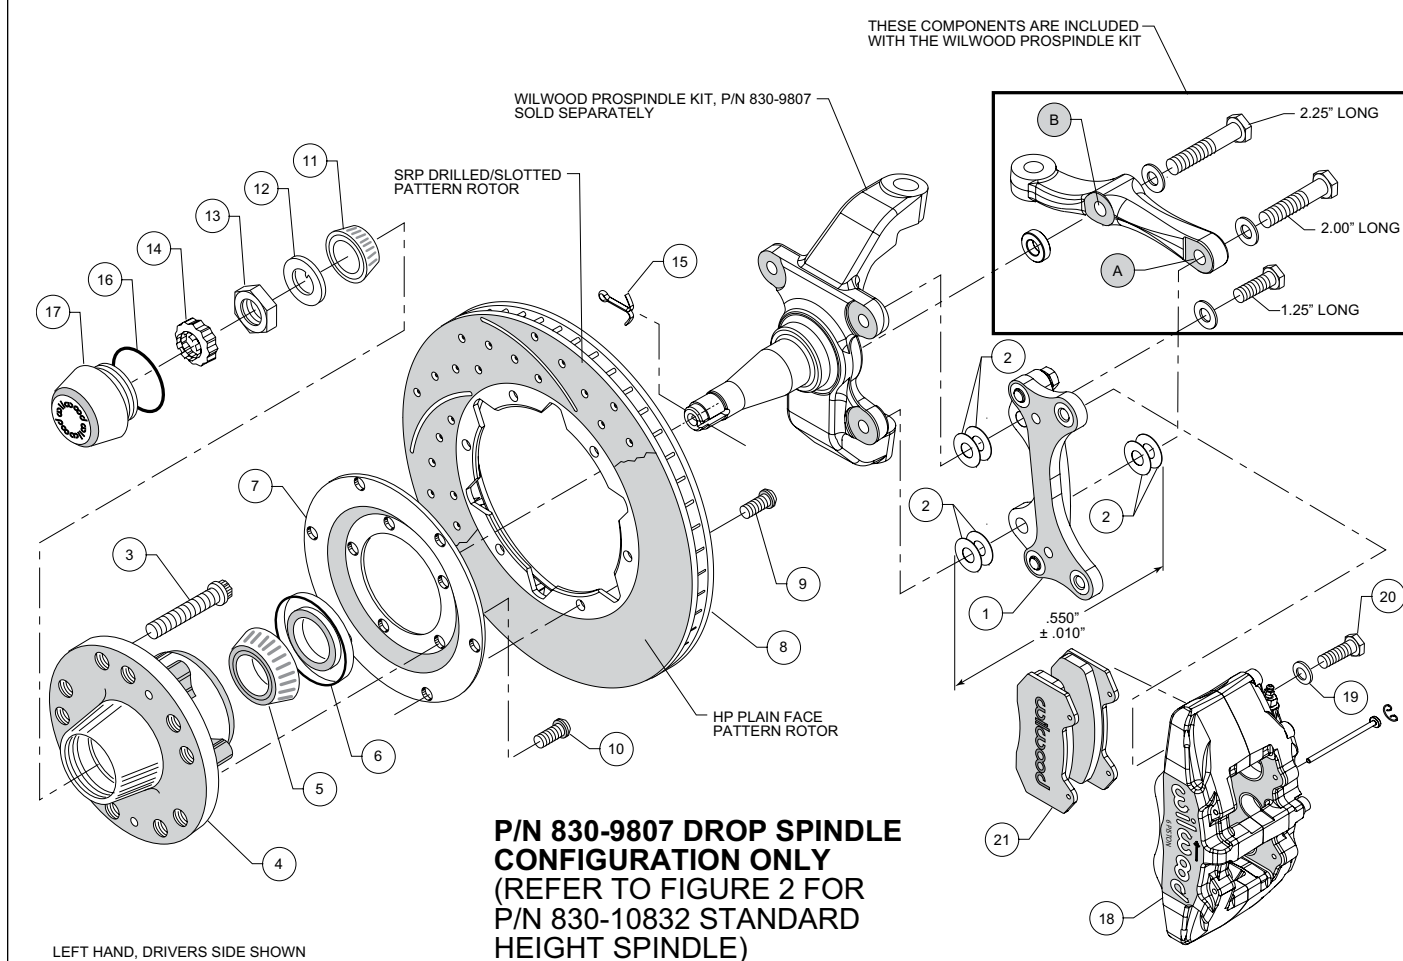
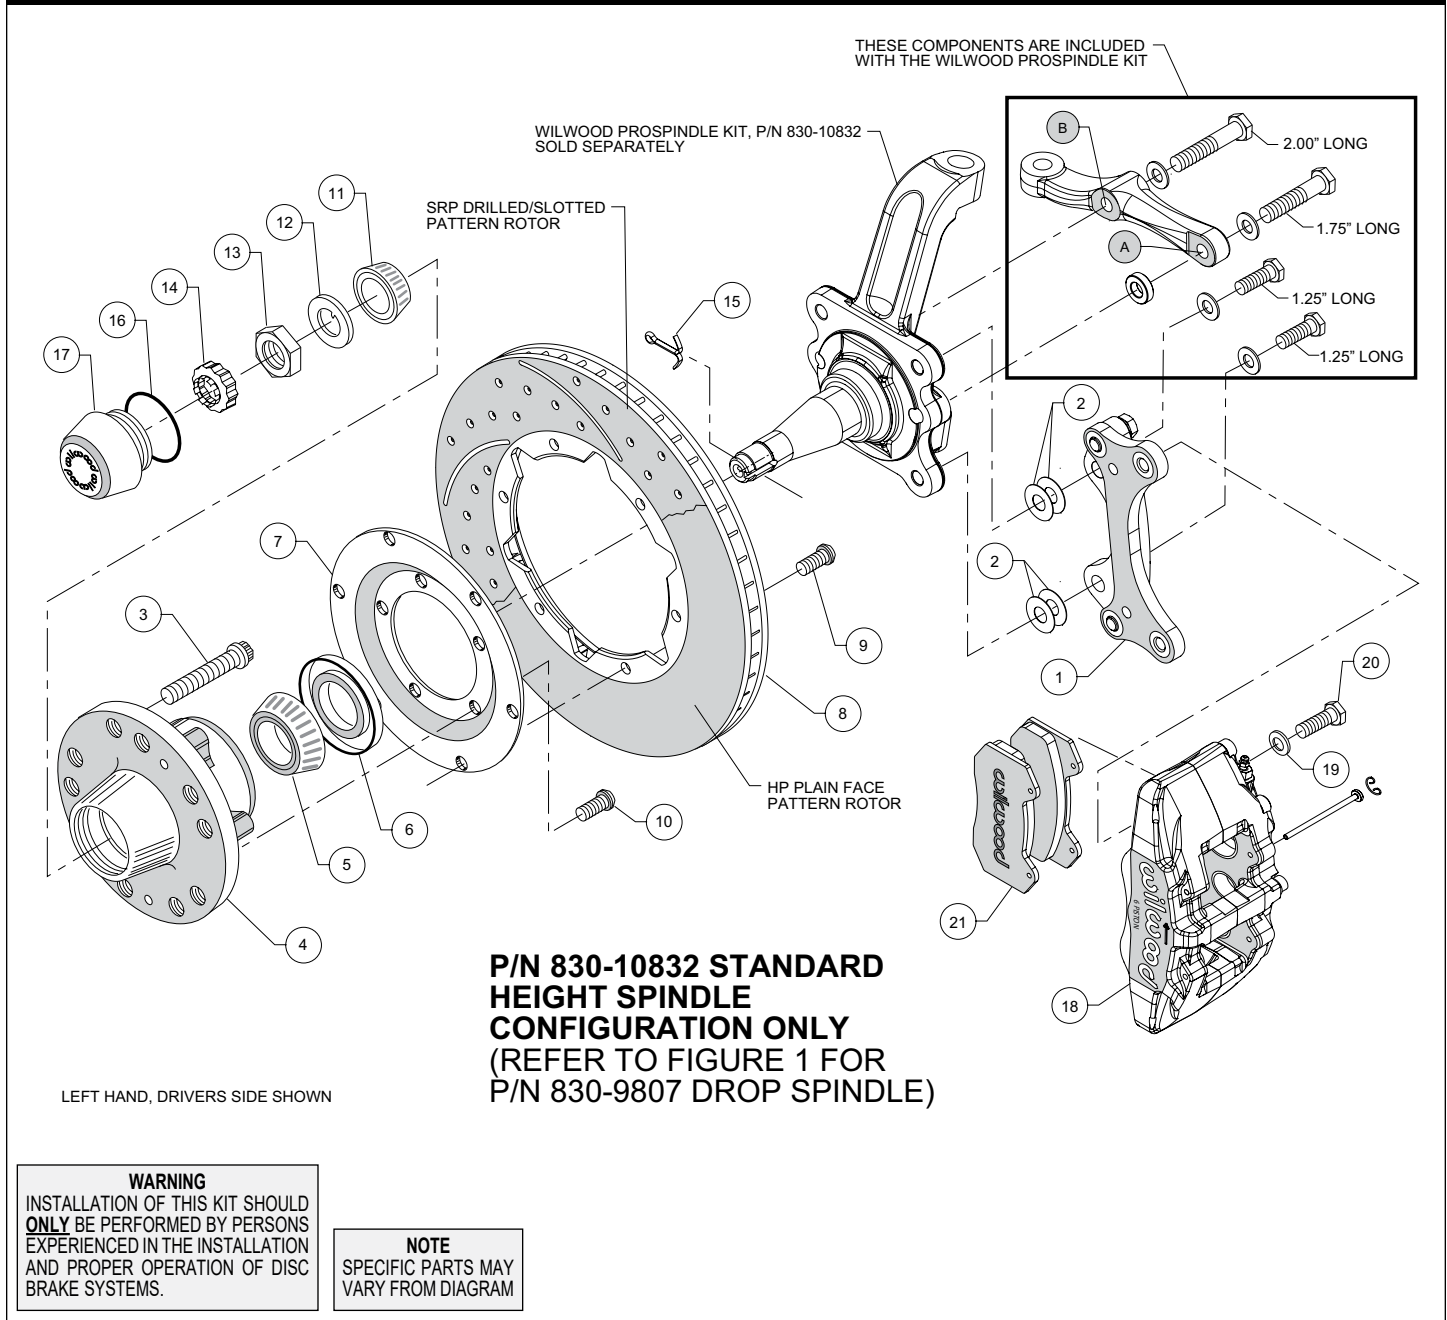

Figure 1. Installation Configuration For Drop Spindle, P/N 830-9807
Figure 2. Installation Configuration For Standard Height Spindle, P/N 830-10832
**NOTE:** Numbers in parenthesis refer to the parts list and Figures 1 and 2 on the preceding pages.
**NOTE:** Each Wilwood ProSpindle kit includes bolts, washers, and a spacer to mount the steering arm and caliper bracket. The various bolts are identified by length in the following instructions and in Figures 1 and 2.
**For 2" Drop ProSpindle (P/N 830-9807):** The caliper bracket assembly (1) should initially be installed with clean, dry threads on the mounting bolts.
- Orient the bracket as shown in Figure 1 and Photo 1. Install at top spindle hole using 1.25" long bolt and .06" thick washer (from ProSpindle kit), and two .016" thick shims (2) between the bracket and spindle, Figure 1.
- Orient the steering arm, and identify the hole marked 'A', as shown in Figure 1. Install at bottom spindle hole using 2.00" long bolt, .06" thick washer (from ProSpindle kit), two .016" thick shims (2) between the steering arm and the bracket, and another two more .016" thick shims (2) between the bracket and spindle, Figure 1. The bracket is located between the steering arm and spindle. **NOTE:** The bracket and shim washers must add up to a total thickness of .550"  $\pm$  .010", Figure 1.
- Finish attaching the steering arm through the hole marked 'B', as shown in Figure 1. Install using 2.25" long bolt, .06" thick washer, and .25" thick spacer (all from ProSpindle kit), Figure 1.
**For Standard Height ProSpindle (P/N 830-10832):** The caliper bracket assembly (1) should initially be installed with clean, dry threads on the mounting bolts.
- Orient the bracket as shown in Figure 2 and Photo 2. Install using 1.25" long bolts and .06" thick washers (from ProSpindle kit), and two .016" thick shims (2) on each bolt between the bracket and spindle, Figure 2. Temporarily tighten mounting bolts. **NOTE:** *The bracket must fit squarely against the mounting points on the spindle.* Inspect for interference from casting irregularities, machining ridges, burrs, etc. Later, after the caliper alignment has been checked, the mount bolts will be secured using red *Loctite*® 271.
- Orient the steering arm, and identify the hole marked 'A', as shown in Figure 2. Install using 1.75" long bolt, .06" thick washer, and .30" thick spacer (all from ProSpindle kit), Figure 2.
- Finish attaching the steering arm through the hole marked 'B', as shown in Figure 2. Install using 2.00" long bolt and .06" thick washer (from ProSpindle kit), Figure 2.
- Install wheel studs (3) into the hub (4), Photo 3. Torque to 77 ft-lb. **NOTE:** *There are two lug patterns of five holes each in the hub (5 x 4.50 and 5 x 4.75).* Make sure of the correct hole pattern for the wheel application before installing the studs into the hub.
- Pack the large inner bearing cone (5) with high temperature disc brake bearing grease (available from your local auto parts store) and install into the backside of the hub (4), Photo 4.
- Install the grease seal (6) by pressing into the backside of the hub (4), flush with the end of the hub, Photo 4.
- Orient the rotor (8) and the rotor adapter (7) as shown in Figure 1 or 2 and Photo 5. Attach the rotor to the adapter using bolts (9). Using an alternating sequence, apply red *Loctite*® 271 to the threads, and torque to 25 ft-lb.
- Mount the adapter/rotor assembly (7 and 8) to the hub (4) using bolts (10), as shown in Figure 1 or 2 and Photo 6. Using an alternating sequence, apply red *Loctite*® 271 to the threads, and torque to 45 ft-lb.
- Pack the small outer bearing cone (11) with high temperature disc brake bearing grease and install into front of hub (4). Slide the hub assembly onto the spindle. Secure using spindle washer (12) and spindle nut (13), Photo 7. Bearing adjustment: Tighten the nut while turning the hub. When there is a slight bind on the bearings, they are seated correctly. Back the nut off about 1/6 to 1/4 of a turn, or sufficiently to allow .001" to .007" end play. **WARNING:**
•**NOTE:** Please reference the caution statement at the beginning of the assembly instructions. This kit contains distinct right and left hand calipers that must be mounted in a specific direction, as described below. Mount the caliper (18) onto the caliper bracket (1) using washers (19), and bolts (20) as shown in Figure 1 or 2. Ensure that the caliper is mounted so the largest pistons are at the rotor exit end of the caliper, in relation to the direction of rotor rotation. Temporarily tighten the mounting bolts and view the rotor (8) through the top opening of the caliper (18). The rotor should be centered in the caliper, Photo 9. If not, proceed as follows:
- Adjust by adding or subtracting shims (2) between the bracket and the spindle. Always use the same amount of shims on each of the two bolts between bracket and spindle.
- For the lower bracket mount bolt, if a shim was added between the bracket and spindle, then a shim must be removed between the steering arm and bracket, such that the total thickness of bracket and shims remain equal to .550 ± .010", Figure 1.